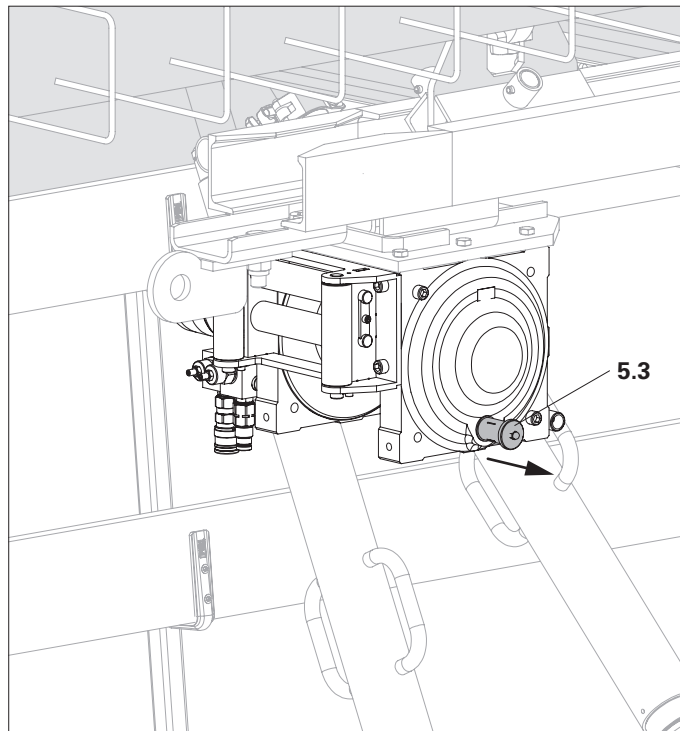

Fig. 07
2. Pull out the freewheel (5.3). (Fig. 07)
3. Unwind the traction cable \varnothing 12 mm x 20 m, H60 (21) by hand.